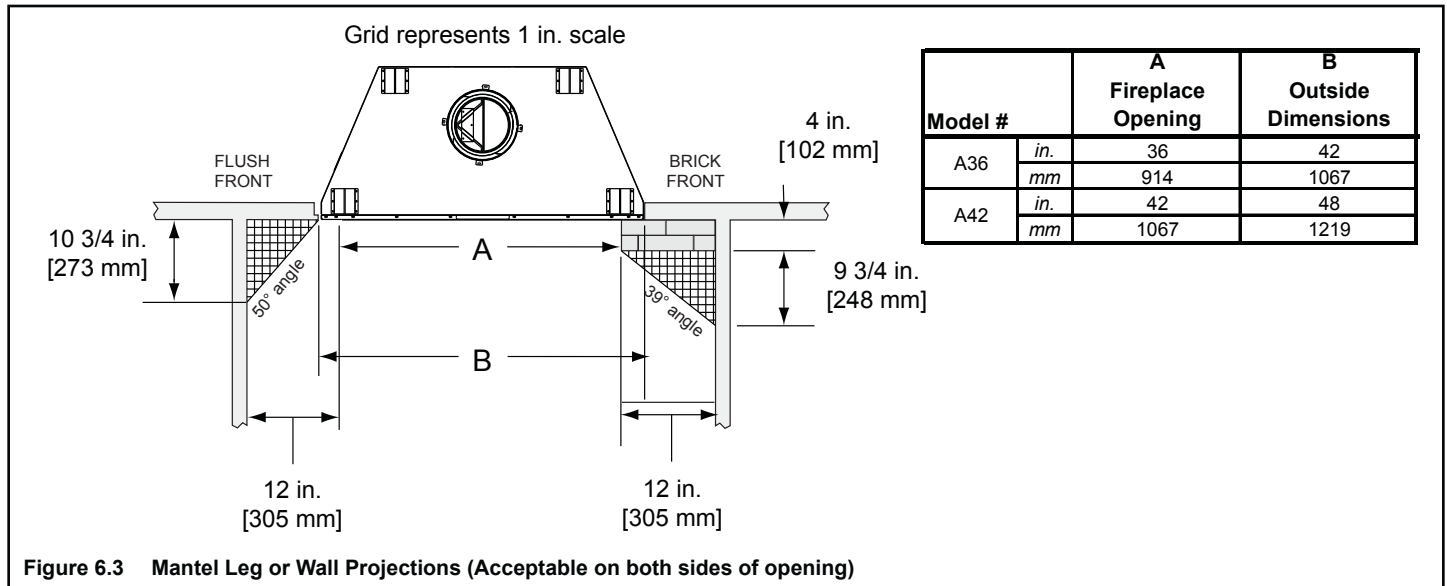

Figure 6.3 Mantel Leg or Wall Projections (Acceptable on both sides of opening)
- Combustible and non-combustible mantel legs, surrounds and stub walls may be constructed per Figure 6.3.